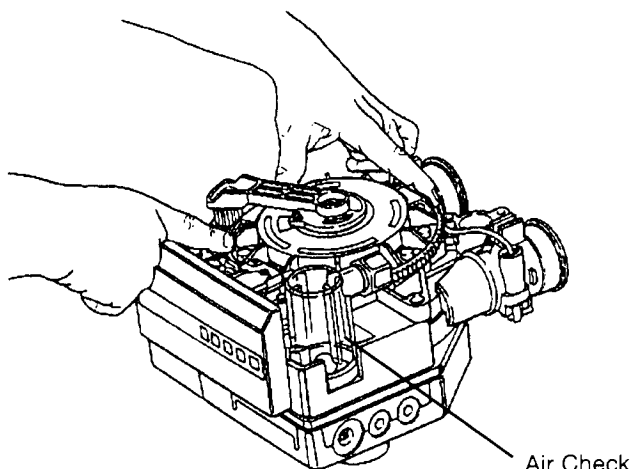

Figure 7
4. With the cam gear disengaged, rotate the cam gear **COUNTERCLOCKWISE** to the **BACKWASH** position (Figure 7).
- C. Rotate the cam gear **COUNTERCLOCKWISE** to the **BRINE/RINSE** position and check that water is being drawn from the brine tank. The water level in the tank will recede very slowly. Continue to draw water until the ball in the air check (Figure 7) seats at the bottom of the air check sight glass. If the water level does not recede, if it goes up, or if air enters the air check sight glass before the water is drawn out of the brine tank, refer to the **Troubleshooting** section in this manual.
- C. With the cam gear disengaged rotate the cam gear **counterclockwise** to the **Backwash** position (Figure 7).